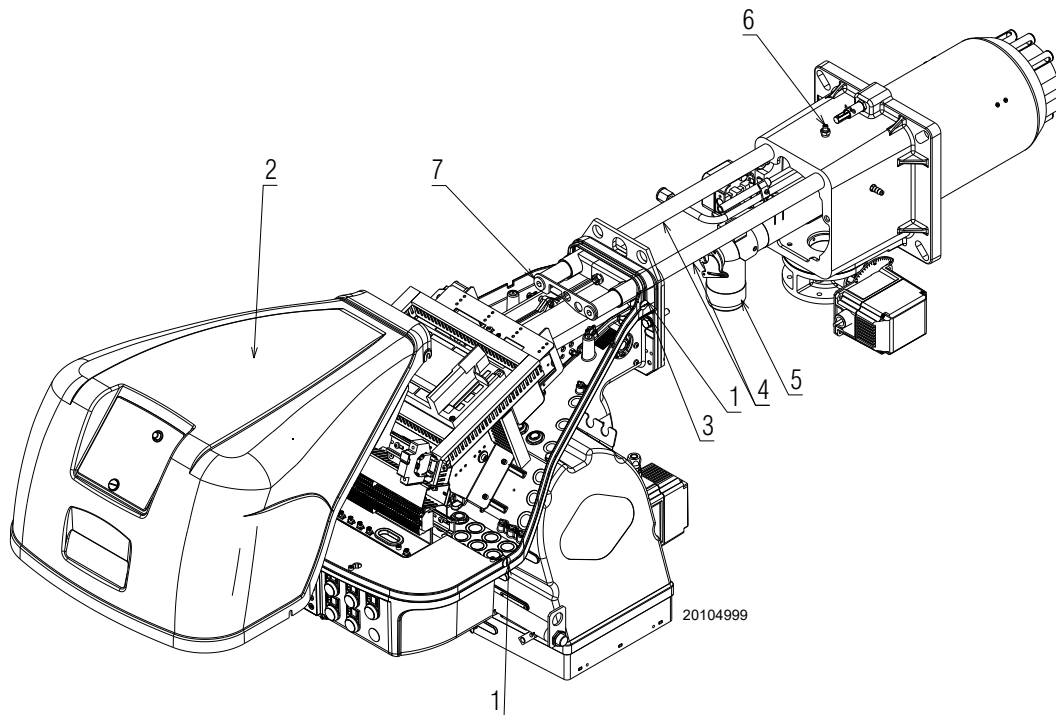

Fig. 39
Make sure that the gas outlet holes for the start-up, on the combustion head distributor, are free of dirt or rust deposits. If in doubt, disassemble the elbow (Fig. 39 at page 40).
- Loosen the 4 screws 1)(Fig. 39) and remove the hood 2);